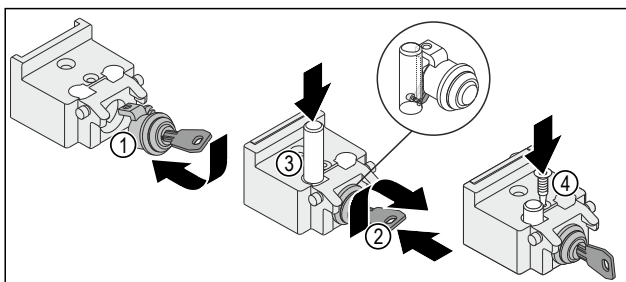

Fig. 16
- ▶ Insert the lock Fig. 16 (1).
- ▶ Insert the key Fig. 16 (2) and turn it.
- ▶ Insert the bolt Fig. 16 (3).
- ▶ Screw in the screw Fig. 16 (4).